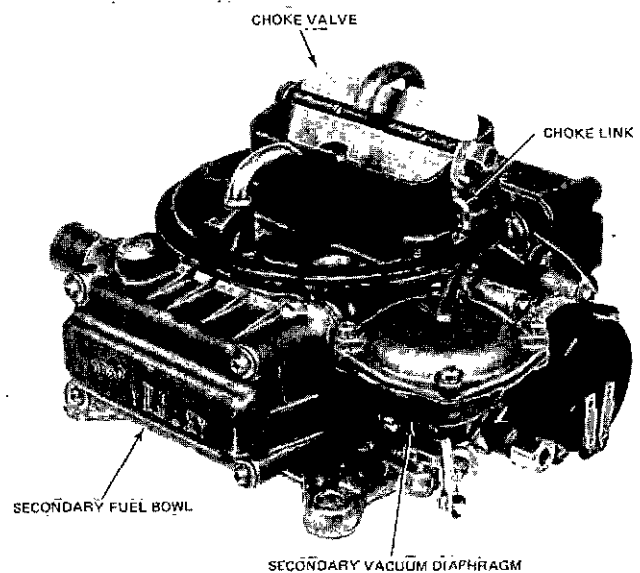

FIG. 20 Secondary Side Model 4160. Internal Fuel Inlet Needle and Seats.
16. Remove choke rod and seal (Figure 20). Unless the choke valve is bent or damaged, **DO NOT** remove. **NOTE: The choke valve screws are staked to prevent loosening and care is necessary to avoid breaking or stripping the threads in the choke shaft. If necessary to remove valve, remove staking with a file before loosening screws.**